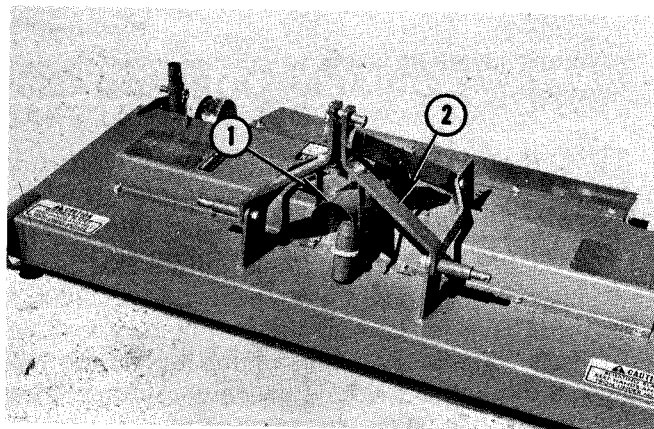

Fig. 56 — "A" Frame Assembly
2. Assemble "A" frame and mower PTO shield as shown in Fig. 56.